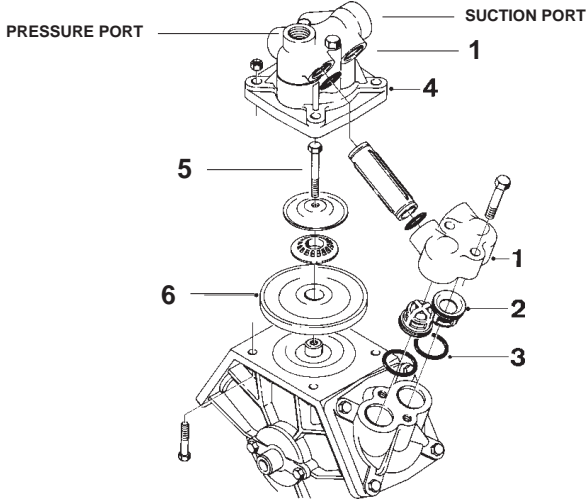

Fig. 27
Remove valve covers (1). (Refer to fig. 27) Before changing the valves (2) note the orientation of the valves so that they are replaced correctly.